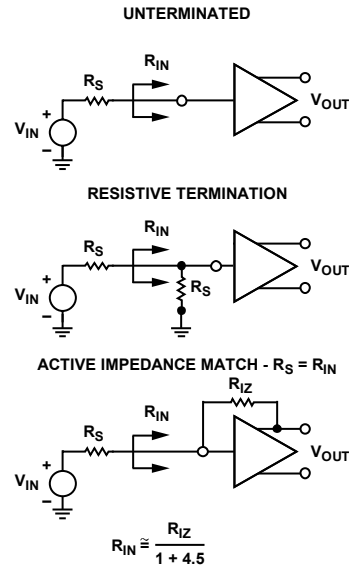
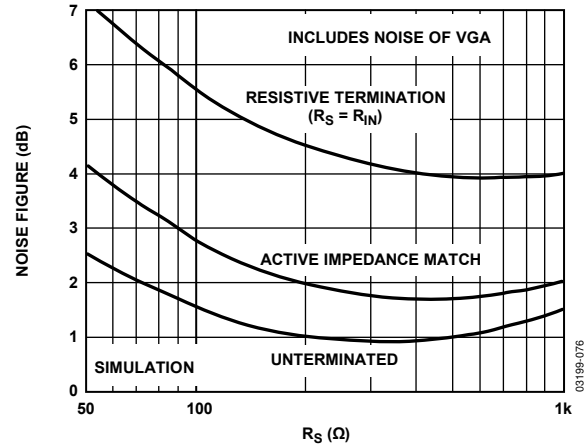
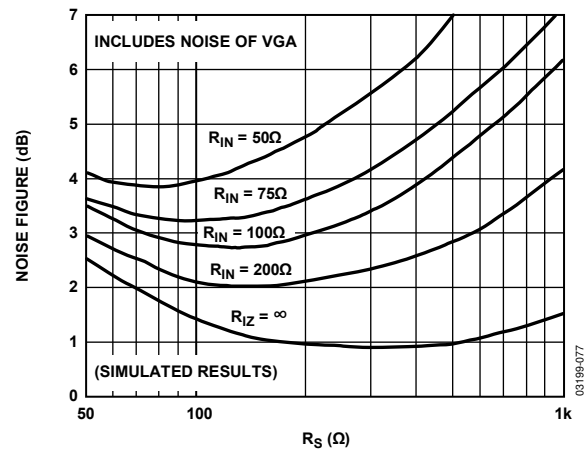

Figure 75. Input Configurations
Figure 76. Noise Figure vs. R_S for Resistive, Active Match, and Unterminated Inputs
Figure 77. Noise Figure vs. R_S for Various Fixed Values of R_{IN} , Actively Matched
The input-referred voltage noise sets an important limit on system performance. The short-circuit input voltage noise of the LNA is 0.74 nV/ $\sqrt{\text{Hz}}$ or 0.82 nV/ $\sqrt{\text{Hz}}$ (at maximum gain), including the VGA noise. The open-circuit current noise is 2.5 pA/ $\sqrt{\text{Hz}}$. These measurements, taken without a feedback resistor, provide the basis for calculating the input noise and noise figure performance of the configurations in Figure 75. Figure 76 and Figure 77 show simulations extracted from these results and the 4.1 dB noise figure (NF) measurement with the input actively matched to a 50 Ω source. Unterminated ($R_{IZ} = \infty$) operation exhibits the lowest equivalent input noise and noise figure. Figure 76 shows the noise figure vs. source resistance, rising at low R_S , where the LNA voltage noise is large compared to the source noise, and again at high R_S due to current noise. The VGA input-referred voltage noise of 2.7 nV/ $\sqrt{\text{Hz}}$ is included in all of the curves.
The primary purpose of input impedance matching is to improve the system transient response. With resistive termination, the input noise increases due to the thermal noise of the matching resistor and the increased contribution of the LNA input voltage noise generator. With active impedance matching, however, the contributions of both are smaller than they would be for resistive termination by a factor of $1/(1 + \text{LNA Gain})$. Figure 76 shows their relative NF performance. In this graph, the input impedance is swept with R_S to preserve the match at each point. The noise figures for a source impedance of $50\ \Omega$ are 7.1 dB, 4.1 dB, and 2.5 dB, respectively, for the resistive, active, and unterminated configurations. The noise figures for $200\ \Omega$ are 4.6 dB, 2.0 dB, and 1.0 dB, respectively.
Figure 77 is a plot of NF vs. R_S for various values of R_{IN} , which is helpful for design purposes. The plateau in the NF for actively matched inputs mitigates source impedance variations. For comparison purposes, a preamp with a gain of 19 dB and noise spectral density of $1.0\ \text{nV}/\sqrt{\text{Hz}}$, combined with a VGA with $3.75\ \text{nV}/\sqrt{\text{Hz}}$, yields a noise figure degradation of approximately 1.5 dB (for most input impedances), significantly worse than the AD8331/AD8332/AD8334 performance.